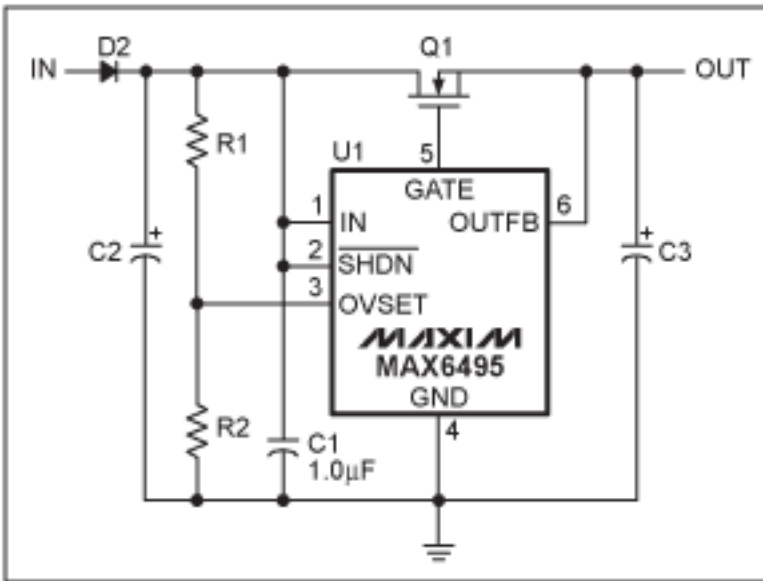

Figure 6. Overvoltage comparator configured in overvoltage monitoring mode.
**Figure 6** shows the MAX6495–MAX6499/MAX6397/MAX6398 connected to operate in overvoltage monitoring mode. By connecting the SET resistor-divider to the input connection, the MOSFET will shut off during an input overvoltage and remain off until the overvoltage condition is removed.